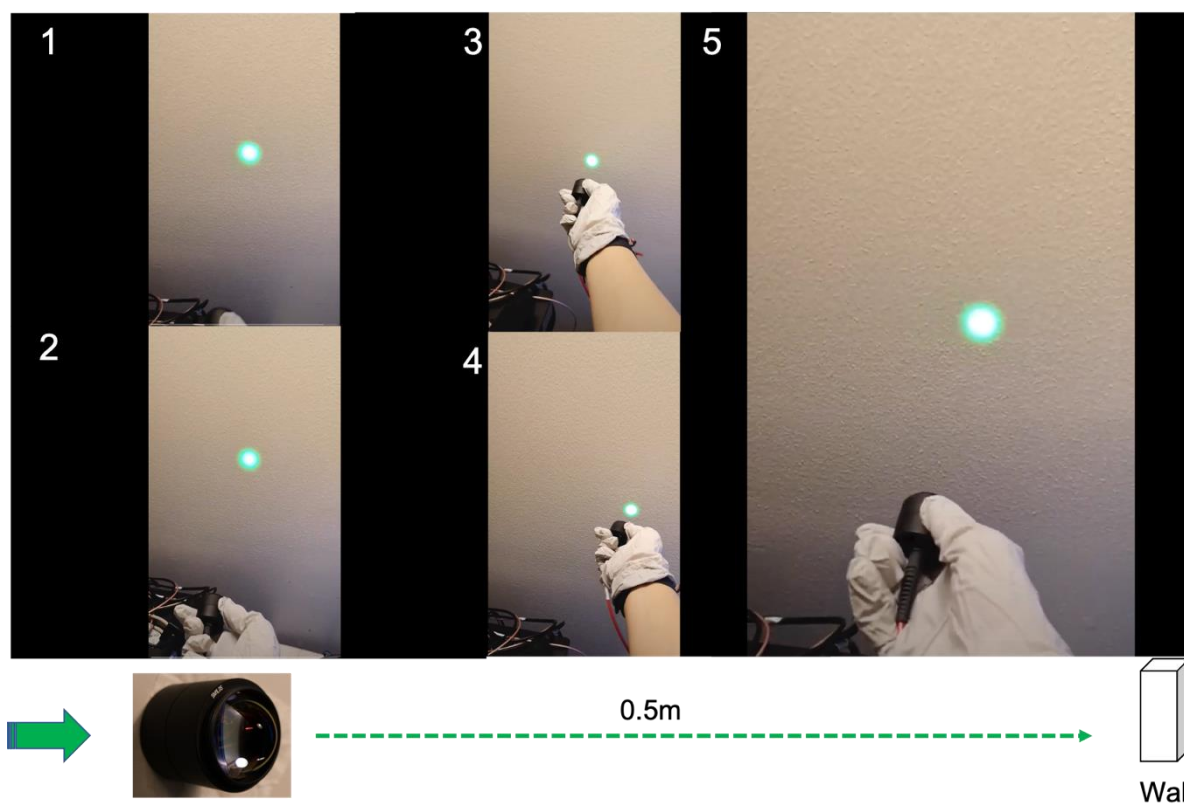

Figure 15: Checking output light from TFB after passing through aspherical lenses and before entering the kinematic filter cage.
Step52. Confirm that the light coming out of Lens tube of Step51 is collimated. For this, attach a green LED (item h) to the mount and follow visualize spot changes by approaching and distancing the assemble relative to a white wall (see Fig.15)